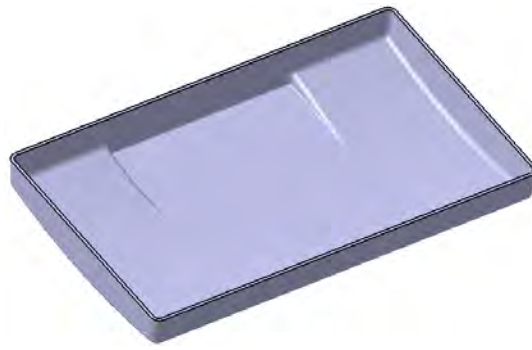

Figure 5-101 Resulting shelled model
3. Choose the **OK** button from the **Shell Definition** dialog box. The rotated view of the model, after adding the shell feature, is shown in Figure 5-101.